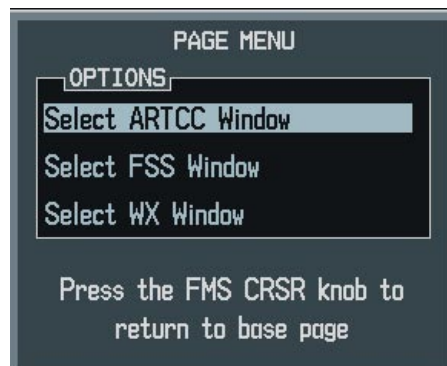

Figure 5-54 Nearest Frequencies Page Menu
- 1) With the Nearest Frequencies Page displayed, press the **MENU** Key (Figure 5-54).